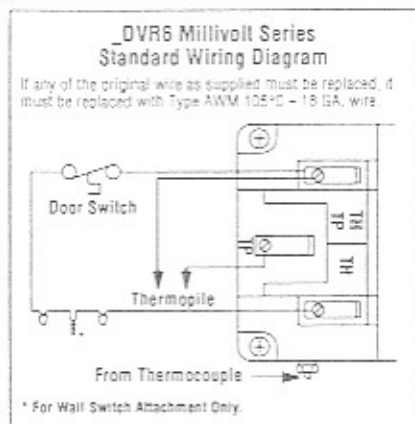
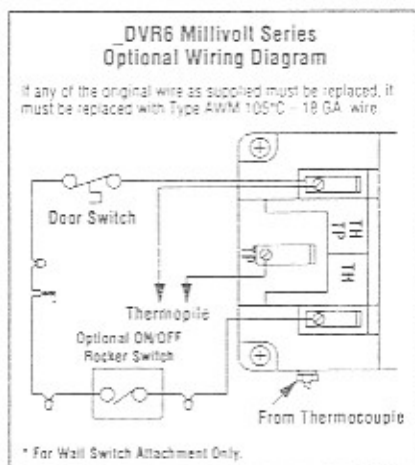

Figure 22
Figure 23
**Step 6. Installing the Optional Remote Wall Switch** – The standard \_DVR6 millivolt system comes from the factory wired as shown in Figure 22. Select a convenient location for the remote wall switch and connect the wiring to the appliance (Figure 23).